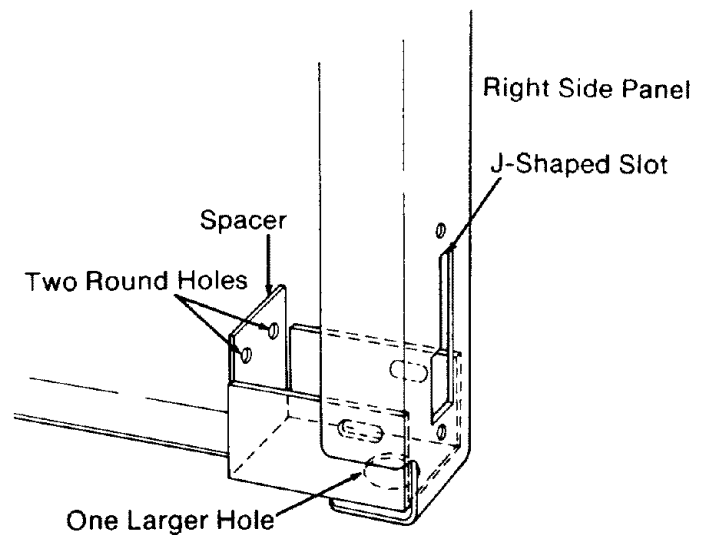

Fig. 18
10. Put a *spacer* inside the *right side panel* as shown. The side of the *spacer* with two round holes should be opposite the J-shaped slot in the *side panel*, and the side with one larger hole should be on the bottom. (Figure 18)
13. Put a *plastic cover* over the J-shaped slot in the *side panel*. (Figure 18)